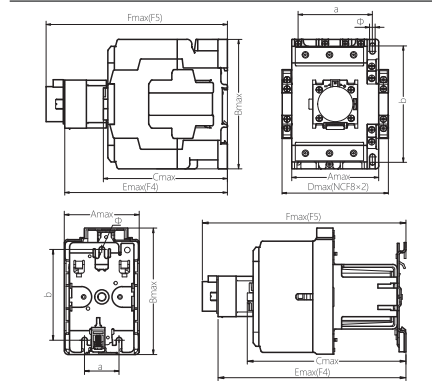

Figure 5 Outline and installation dimensions of NC8-40(Z)~100(Z) series AC contactors
3.5 See Figure 5 and Table 8 for outline and installation dimensions of NC8-40~100 series AC contactors.